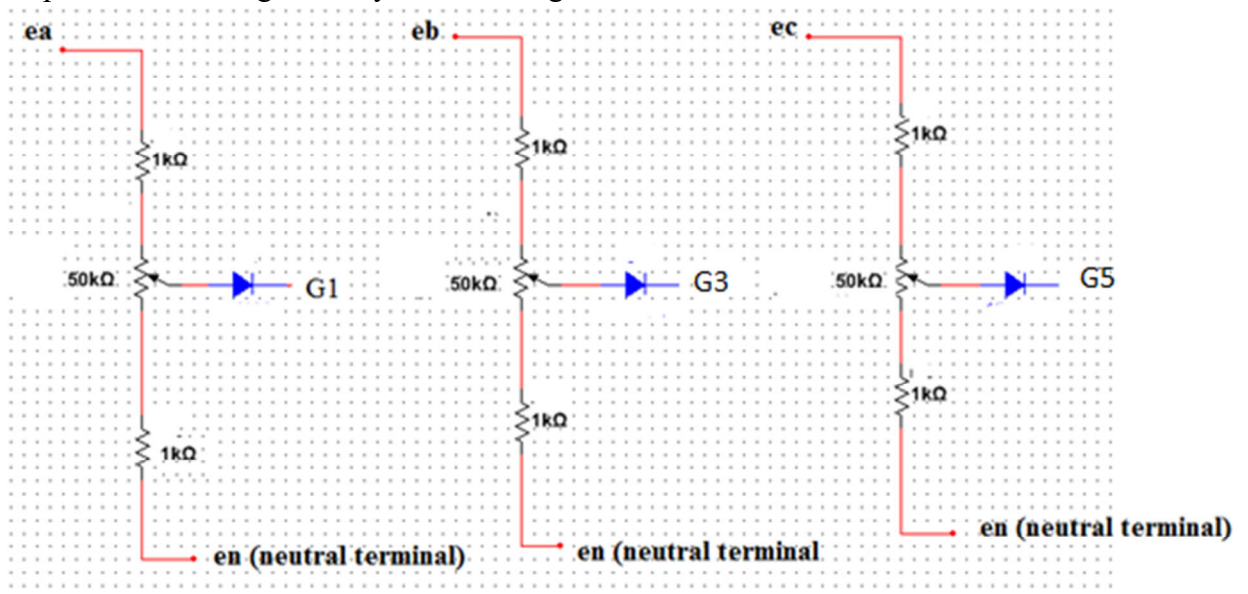

Figure 8.4: Firing Circuit of SCRs
- Implement the firing circuitry shown in Figure 8.4 on breadboard.